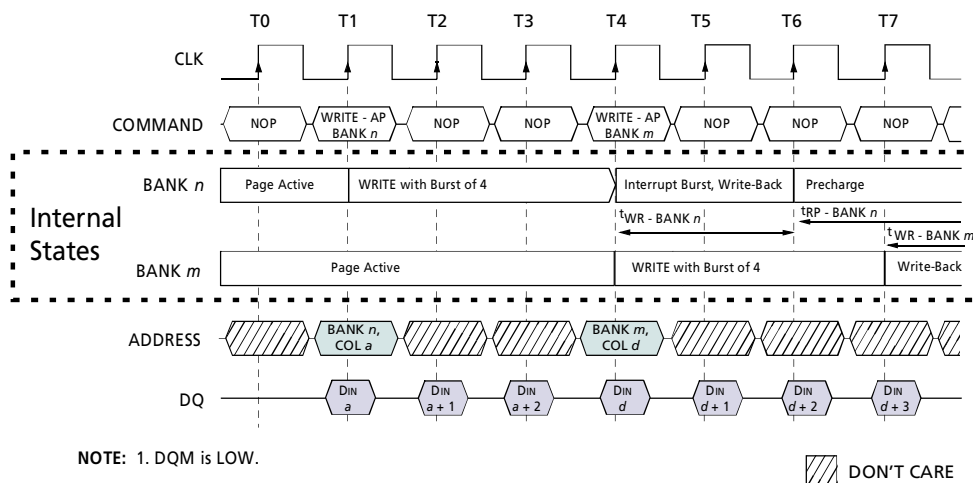

Figure 27
4. Interrupted by a WRITE (with or without auto precharge): A WRITE to bank *m* will interrupt a WRITE on bank *n* when registered. The PRECHARGE to bank *n* will begin after t^{WR} is met, where t^{WR} begins when the WRITE to bank *m* is registered. The last valid data WRITE to bank *n* will be data registered one clock prior to a WRITE to bank *m* (Figure 27).